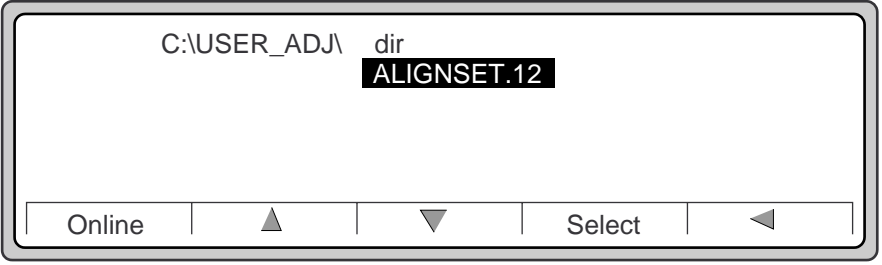

Figure 2-94 ALIGNSET.12
5. Use the **down arrow** to highlight **ALIGNSET.*¹**, then press **Select** once. See Figure 2-94.